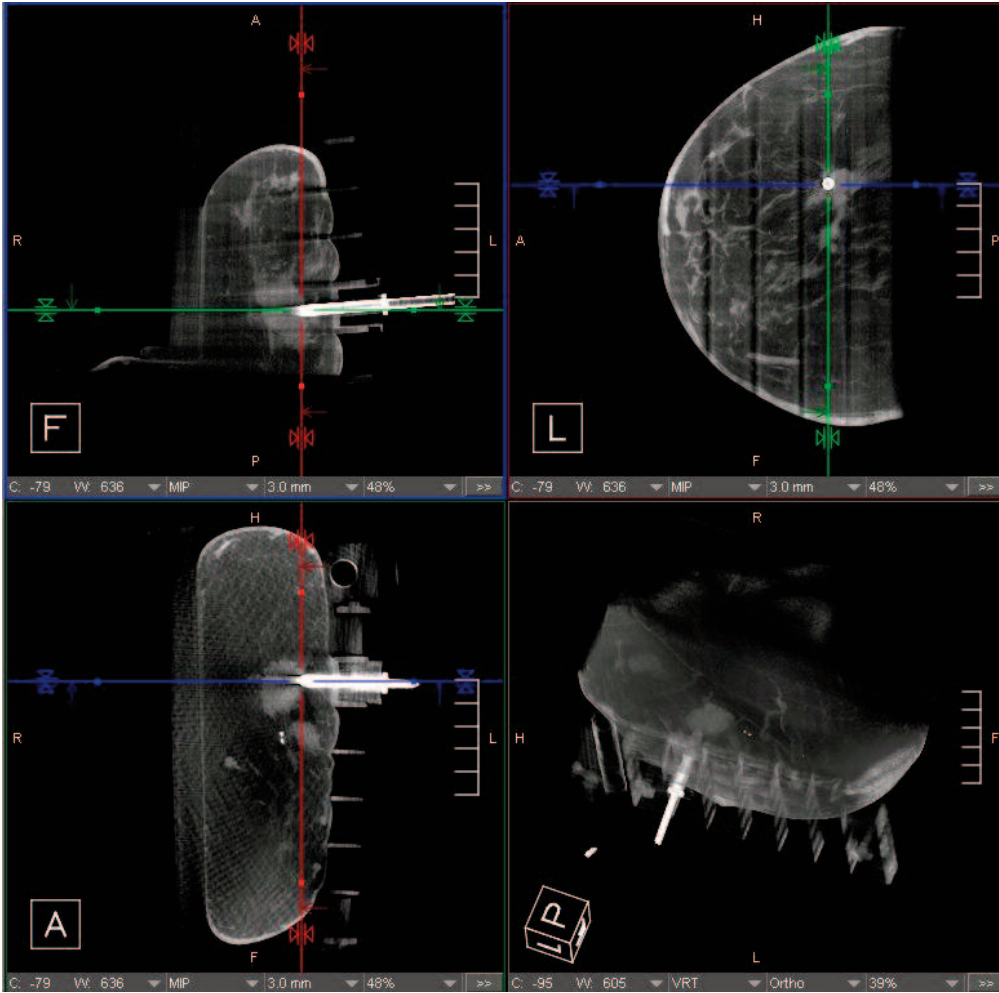

Figure B.3.1-4: Pre-biopsy images to confirm obturator position
- The stylet is removed from the introducer sheath leaving the introducer sheath in place. The localizing obturator is inserted into the introducer sheath, and the patient is imaged to confirm accuracy (Figure B.3.1-4)